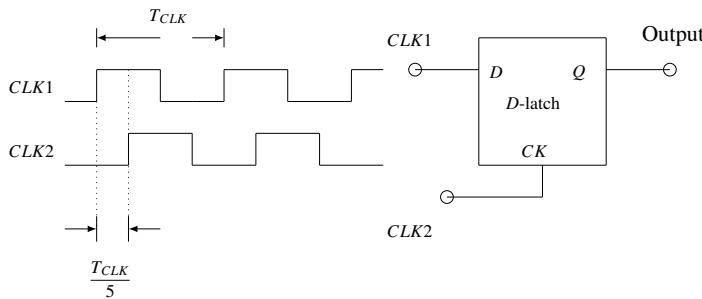

Fig. 5.16
16. Consider the *D*-Latch shown in Fig. 5.16, which is transparent when its clock input *CK* is high and has zero propagation delay. In the figure, the clock signal *CLK1* has 50% duty cycle and *CLK2* is a one fifth period delayed version of *CLK1*. The duty cycle at the output of the latch in percentage is _____. (GATE-EC2017)